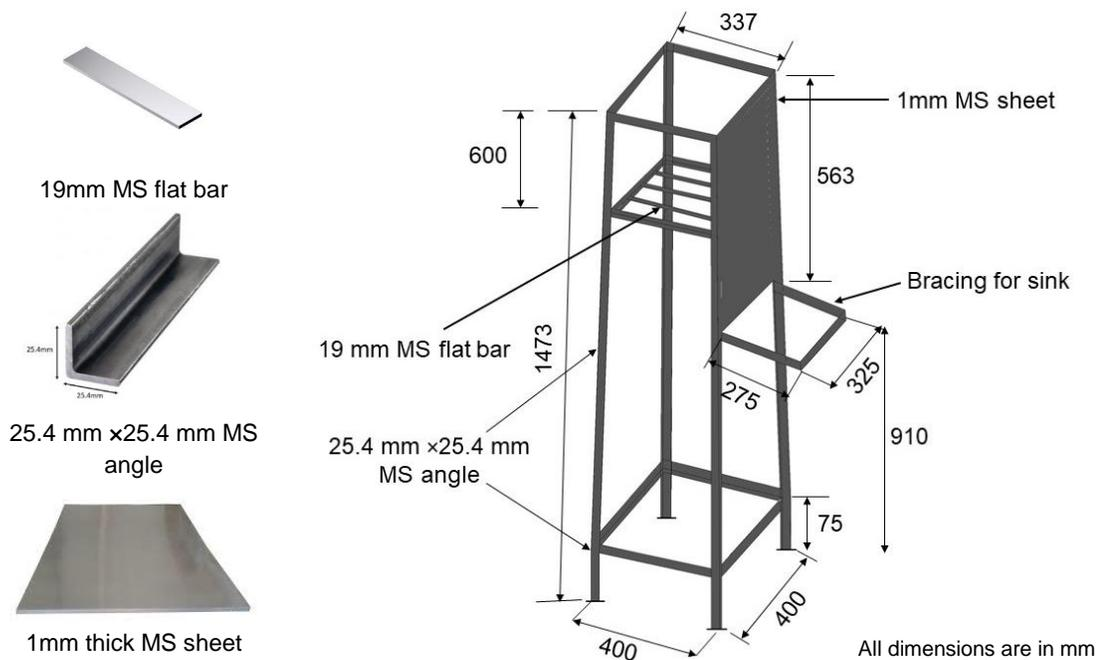

Figure 1 : MS angle frame and other components attached with the frame.
- Make a frame with **25.4 mm x 25.4 mm MS angle**. The overall size of the frame is 400 mm x 400 mm x 1473 mm (Figure 1)
- Add **19 mm MS flat bar** to support water tank as shown in the Figure 1
- Attach **1mm MS sheet** at one side of the frame which either to be used for attaching a mirror or hygiene messages as shown in the figure 1.
- Add a **bracing structure** at a height of 910 mm using 25.4 mm x 25.4 mm MS angle to support sink as shown in the figure 1